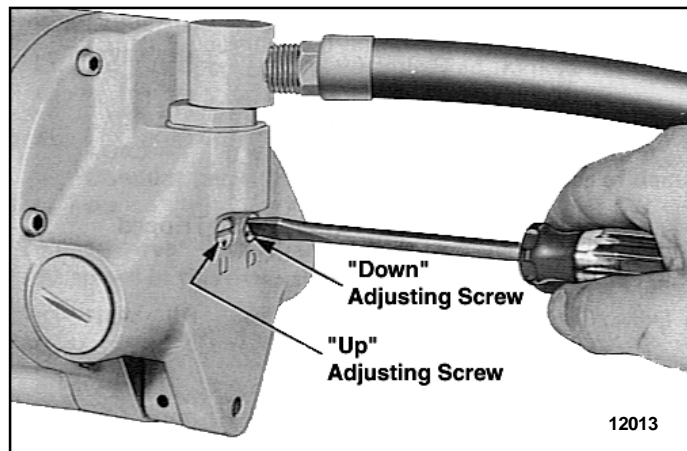

Figure 2-4. Hoisting and Lowering Speed Adjustment.
b. To adjust the hoisting or lowering speed, turn appropriate regulator_ screw (Figure 2-4) in either direction a little at a time while operating hoist under load.